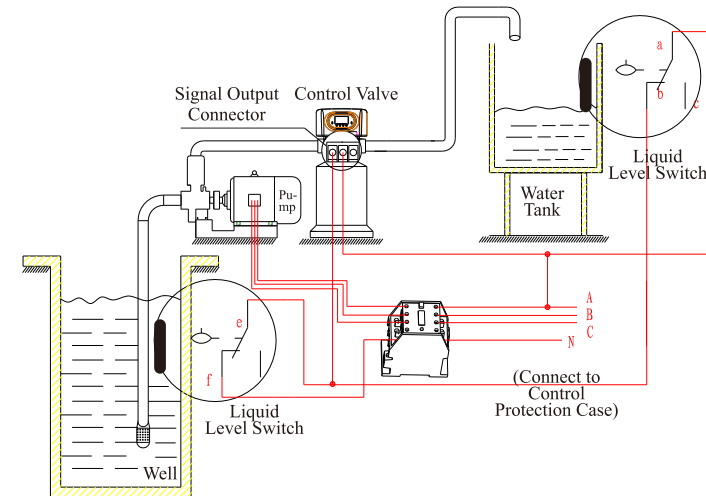

Figure 3-5 Wiring of Liquid Level controller controlling Inlet Pump
4) Liquid Level Switch in Water Tank Controls 380V Three-phase Inlet Pump, Figure 3-5 (Set b-01)